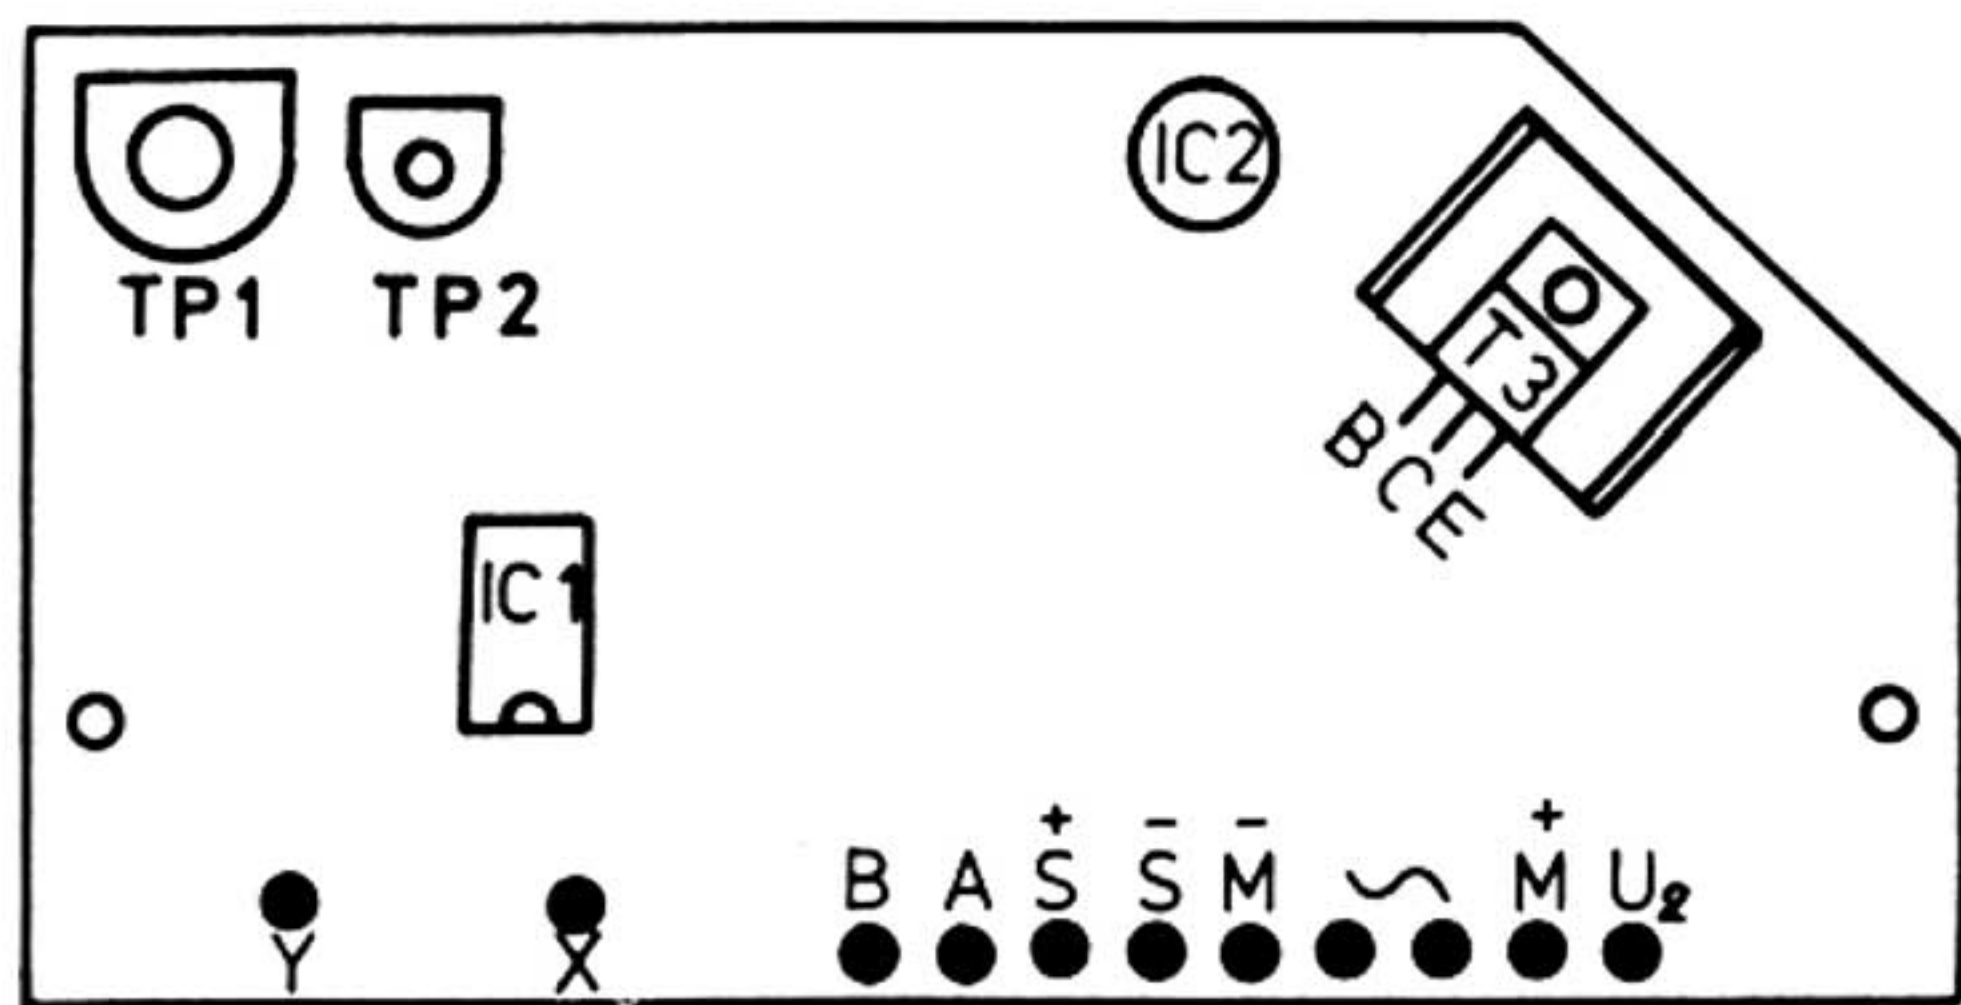

Fig. 2
- c) Adjustments: The voltmeter should be connected between M (negative) and point X on the printed circuit board (fig. 2). If the unit has turned itself off during section (a), turn trim-potentiometer TP 2 (fig. 2) anti-clockwise to prevent this recurring. Allow the tonearm to play the complete section and observe the highest voltage on the voltmeter (approx. 0.8 to 2.2 V). Move the positive terminal to point Y (fig. 2) and with the pick-up arm in its rest, adjust TP 2 until a voltage 0.5 V higher than that previously observed is obtained (approx. 1.3 to 2.7 V). Repeat section (a) and (b) to check satisfactory operation.
All voltages are measured to point M— (fig. 2) by a voltmeter, the input-resistance of which is greater than 1 M ohm per volt.